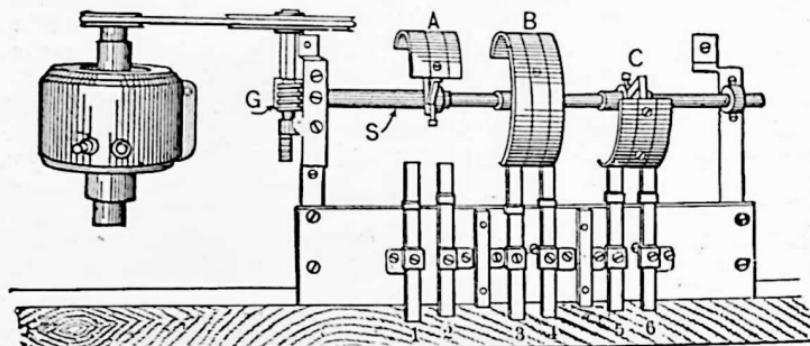

FIG. 215. Sign Flasher.
Fig. 215 shows mechanism for producing so-called **flashing signs**. By means of a motor connected through the gears *G*, the shaft *S* is made to turn slowly. The circuit through the lamps in one part of the sign is brought to the brushes (1) and (2). As the shaft turns, the brass or copper arc *A* comes momentarily into contact with these two brushes and this set of lamps flashes up. As soon as the arc *A* leaves these brushes, of course this set of lamps goes out. Similarly, other sets of lamps, connected through brushes (3) and (4) and (5) and (6), are flashed on and off by the arcs *B* and *C*. By changing the relative positions on the shaft of the arcs *A*, *B* and *C*, any desired change in the time and sequence of the flashing of each set of lamps can be made. Thus all the lamps may flash at once and go out at once. One may flash just as another goes out or they may flash one after the other, but each set remain on until all are lighted, and then all go out at the same instant. These effects are produced merely by varying the lengths or the positions of the arcs on the shaft.
Prob. 19. Draw a diagram showing the complete wiring for flashing 3 sets of lamps, one after the other. Use the apparatus shown in Fig. 215.